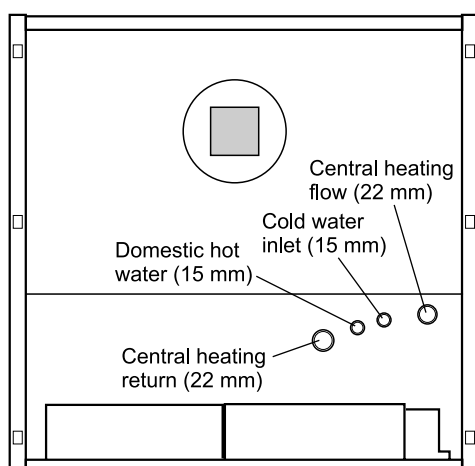

Fig. 17 - Pipe positions
- 3 Fit the four push-fit elbow connectors onto the open pipe ends. See Fig. 17. Connect the pipework (not supplied with the boiler) to the elbows.